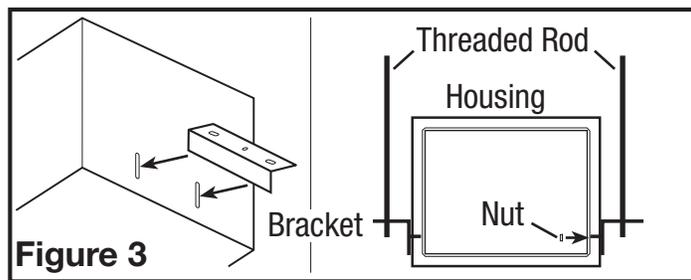

Figure 3
1. If the mounting brackets are not already in place, install both brackets through the top set of slots on the fan housing and secure in place with the four included nuts as shown. Lift unit up onto the threaded rods and secure in place using appropriate hardware (not included) (Figure 3).
4. Unplug the 3-pin quick connect motor plug from the wire compartment and plug it into the 3-pin receptacle on the controller harness coming from the filter box. Connect the 3-pin quick connect plug from the harness into the wire compartment receptacle (Figure 3).